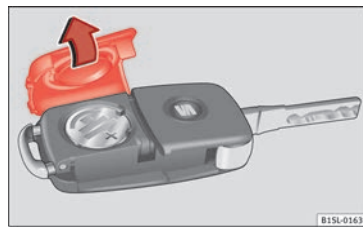

Fig. 99 Vehicle key: battery compartment cover
- Remove the cover from the back of the vehicle key »» Fig. 99 in the direction of the arrow »» ❶.
- Fit the battery compartment cover, pressing in the direction of the arrow as shown »» Fig. 99 until it clicks into place.
❶ CAUTION